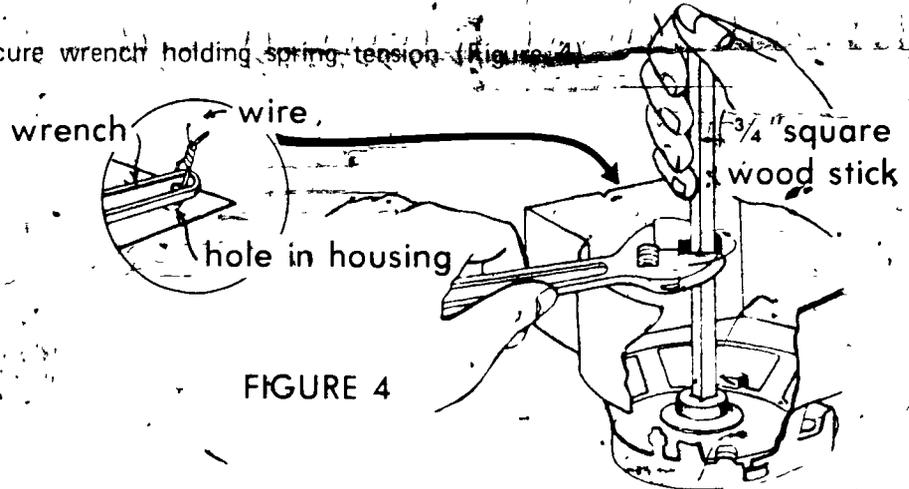

FIGURE 4
- E. Secure wrench holding spring tension (Figure 4)